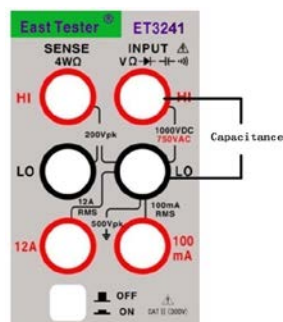

Figure 4-24 Wiring method
2. Connect the red and black test leads to the corresponding input terminals as shown in Figure 4-24.